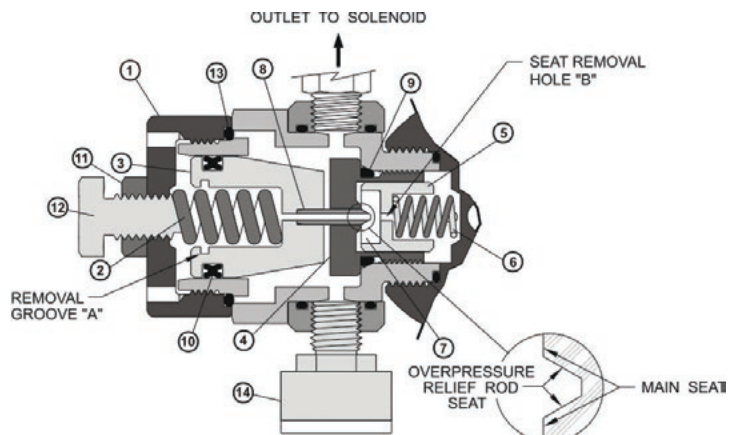

Figure 32: Replacing the Integral Regulator
1.5 Inspection/Repair of Integral Regulator (refer to Figure 32)